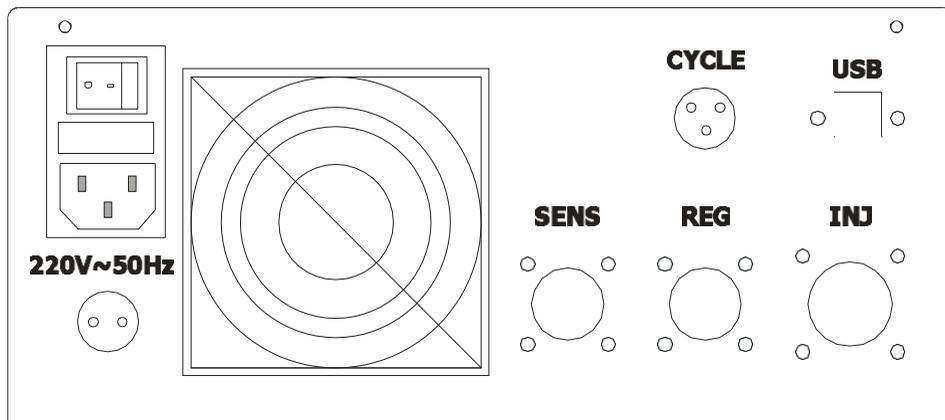

Figure 3. Back Panel
- "NETWORK" to connect the power supply ~ 220 V. Connector "NETWORK" structurally designed in one case with a fuse and a power button (Fig 3).